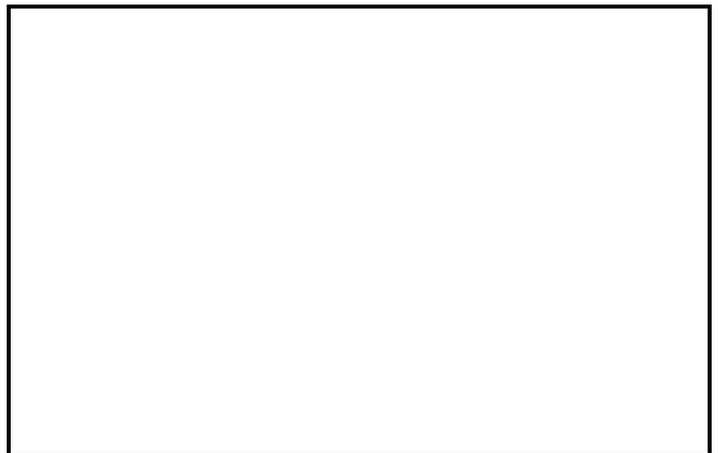

FIG.5 Double check of alignment as shown on a dual-trace scope.
6. Double check the cell alignment by running a 100% stereo alignment film, or the Dolby Cat. No. 97 left/right STEREO ALIGNMENT film. The *amplitude* of the two 100% modulated wave forms should be identical. (See Fig. 5). If one is greater than the other, whilst the modulated wave forms of the 50% level film are identical, there is a problem with the scanning beam. Either the slit is not uniformly illuminated along it's length, or the scanning beam is not in perfect alignment with the film guide roller and solar cell. Since most sound head optics cannot be moved in or out, it will be necessary to adjust the position of the film guide roller and realign the solar cell so that both the 50% and 100% modulated tones match from channel to channel. When this fine alignment is not done, loud sounds (above 50% modulation) will be distorted and will leak into the surround speakers.